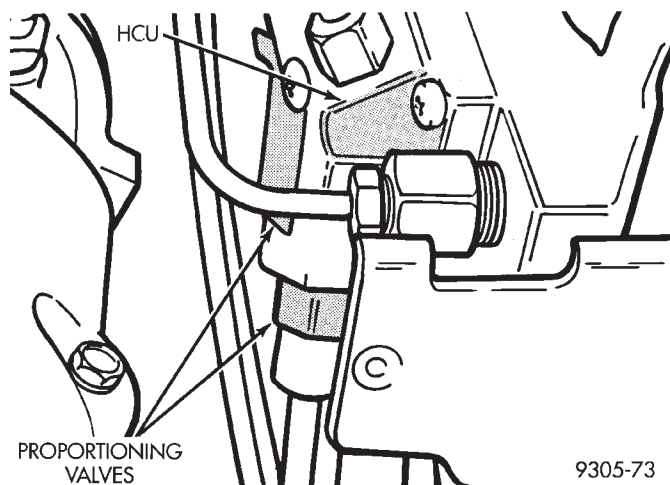

Fig. 10 Brake Tube Connections At Proportioning Valves
(3) Connect the 2 rear brake tubes onto the proportioning valves located on valve block of hydraulic assembly (Fig. 10). Torque the 2 brake tube fitting nuts at proportioning valves to 19 N•m (14 ft. lbs.).
(4) Remove plug from end of brake fluid supply hose going to reservoir at (HCU). Connect supply hose on (HCU) reservoir nipple and install hose clamp on hose. Be sure clamp is past bead on nipple of (HCU) fluid reservoir.